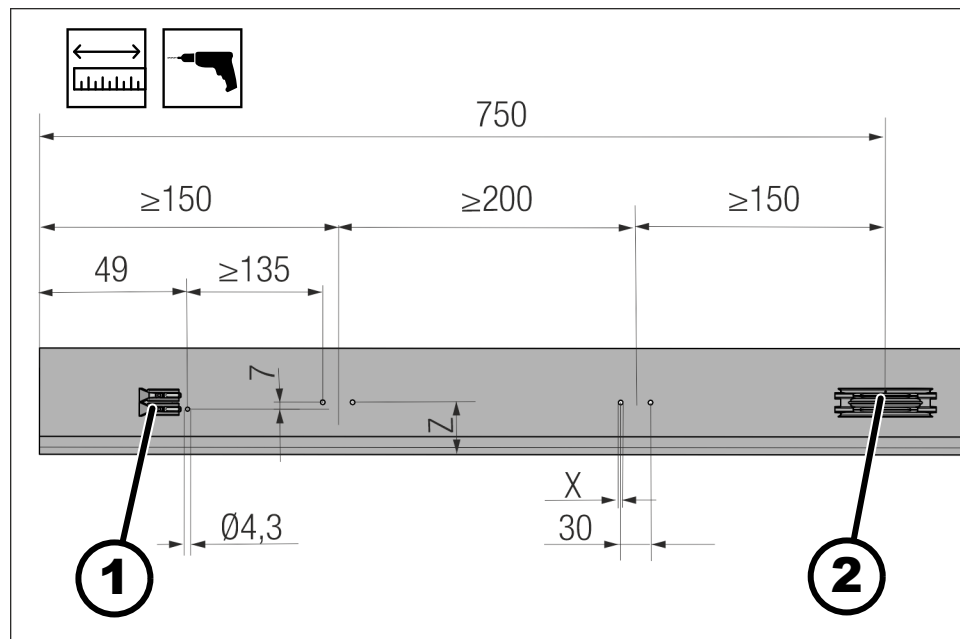
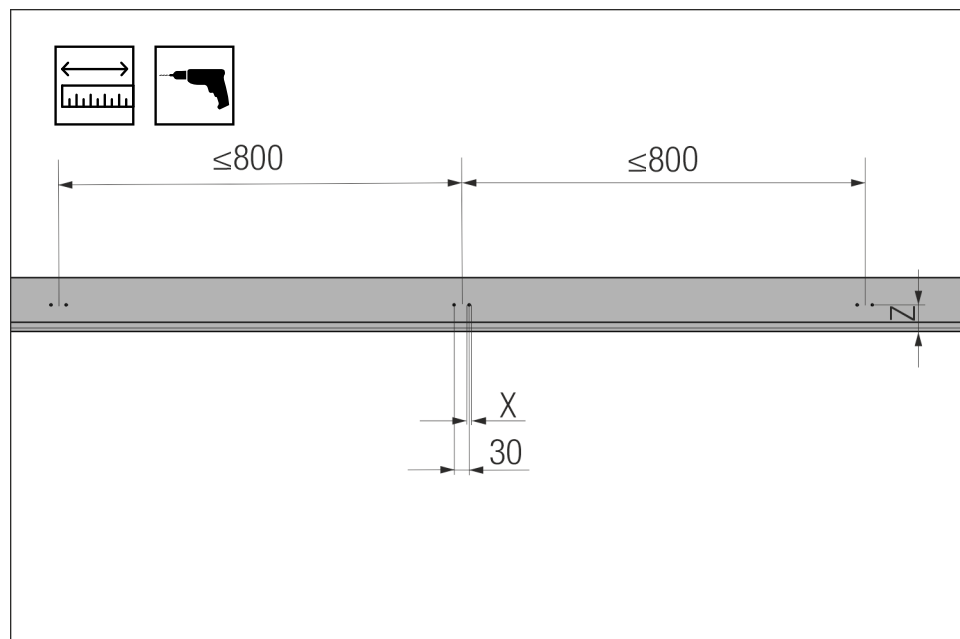
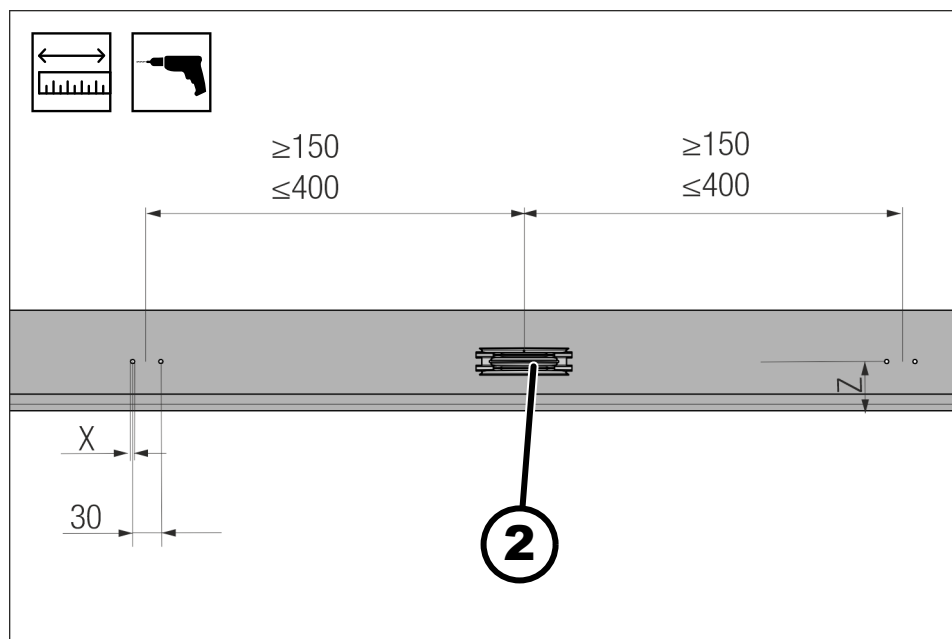
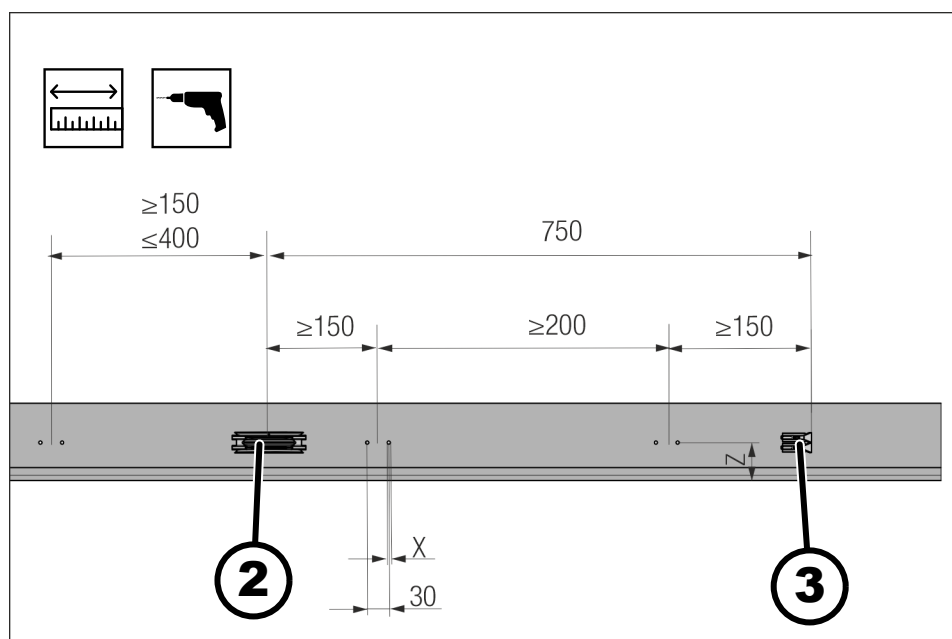

Fig. 14: System start
Fig. 15: Holes for hanger clamps
Fig. 16: Spacing between hanger clamp and connector
Fig. 17: System end
- ➔ Determine the position of the hanger clamps depending on the position and height of the conductor bar (see *Fig. 14*, *Fig. 15*, *Fig. 16* and *Fig. 17*).
- At the system start, drill the holes for the end cap base with the anchor point and the first two hanger clamps (see *Fig. 14*).
- Drill the holes for all other hanger clamps and connectors on the track section in the support profile (see *Fig. 15* and *Fig. 16*).
- Drill the holes for the hanger clamp and end cap at the system end (see *Fig. 17*).